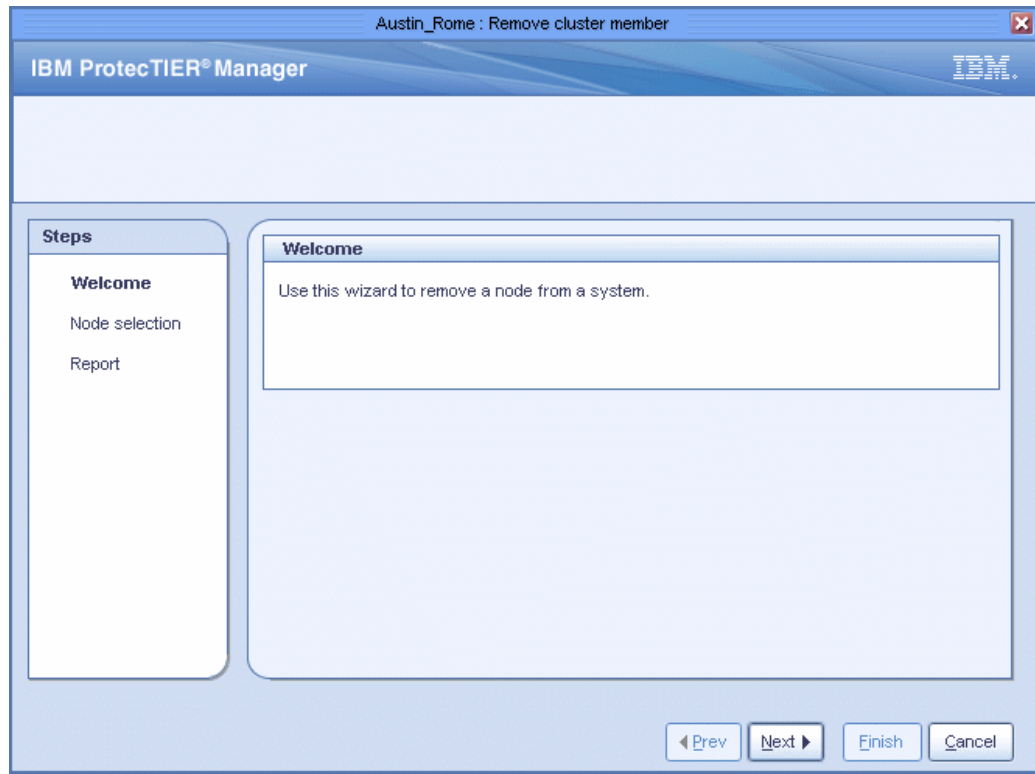

Figure 10-85 Remove cluster member: Welcome window
- From the menu bar, select **Cluster Management** → **Remove cluster member**. The Remove cluster member wizard Welcome window opens (Figure 10-85).